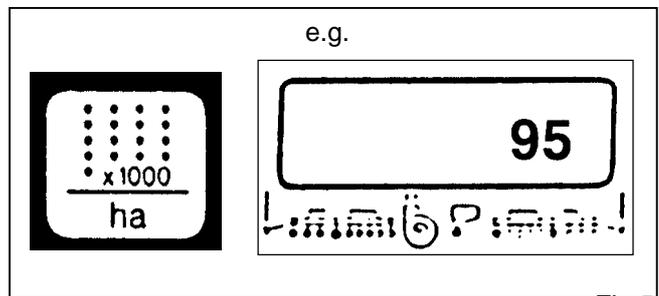

Fig.5
4.2.5 Key "number of seeds/ha" (Fig.5)